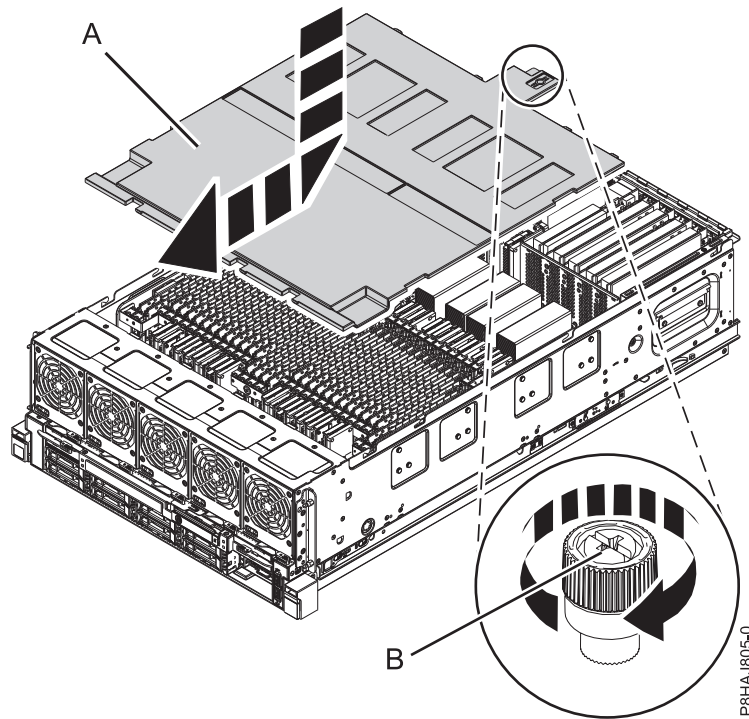

Figure 41. Replacing the safety cover
2. Push the safety cover (A) toward the chassis.
3. Tighten the thumbscrew (B) by turning it in the direction shown in Figure 41 on page 79 to fix the safety cover to the chassis.